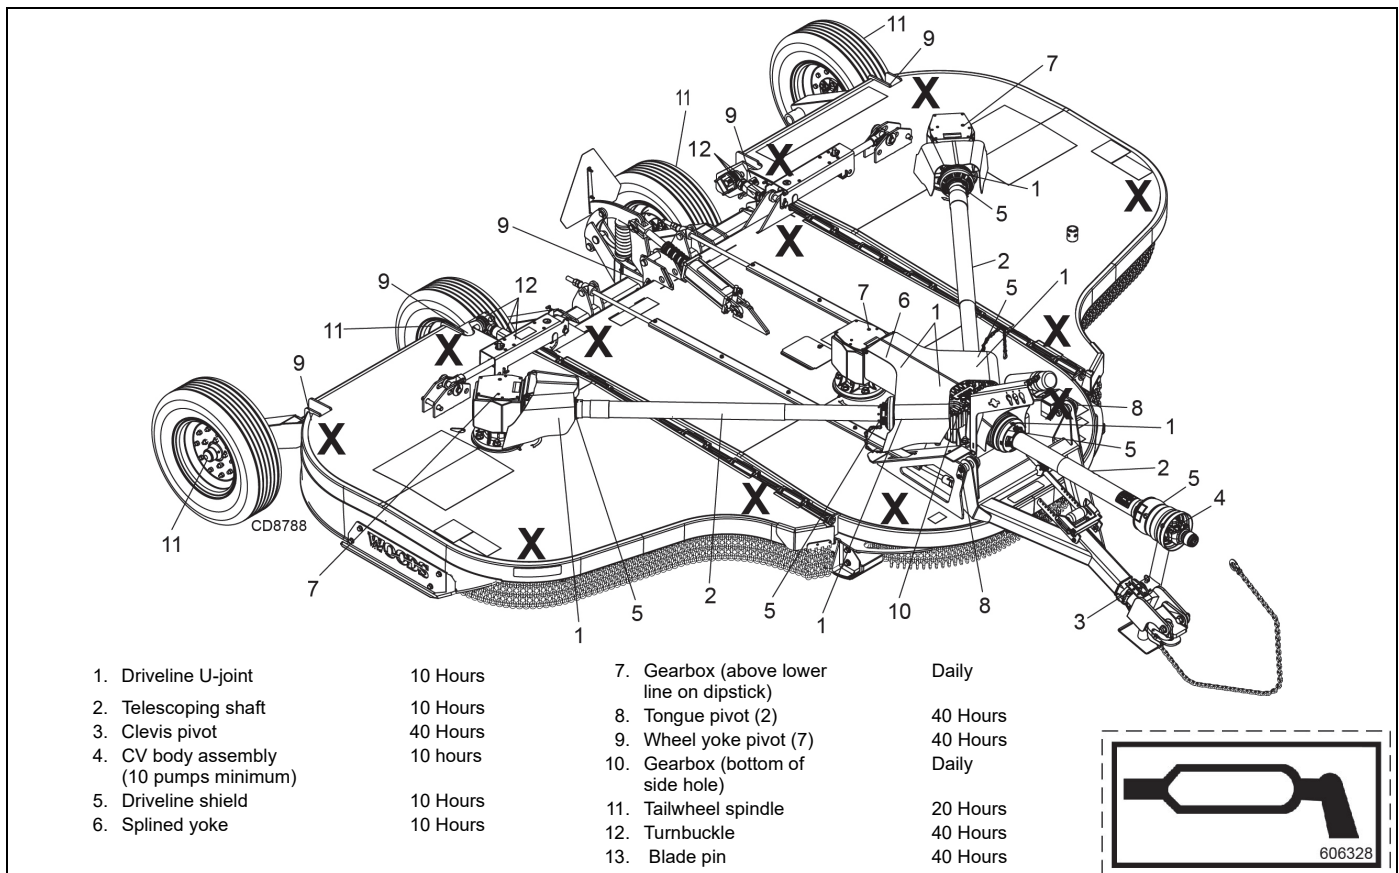

Figure 5. Jackstand Placement and Lubrication Points
1. Jackstands with a load rating of 450 kg or more are the only approved blocking device for this cutter. Install jackstands (shown by Xs in Figure 5) under the cutter before working underneath unit.
See Figure 5 for lubrication points and frequency or lubrication based on normal operating conditions. Severe or unusual conditions may require more frequent lubrication.
2. Raise cutter and block securely (see Figure 5).
3. Align crossbar (8) with blade access hole in the cutter frame. Remove cap screw (16), blade pin lock clip (15), keyhole plate (14), spacer (13), and shims (11 & 12). Carefully drive blade pin (10) out of crossbar.